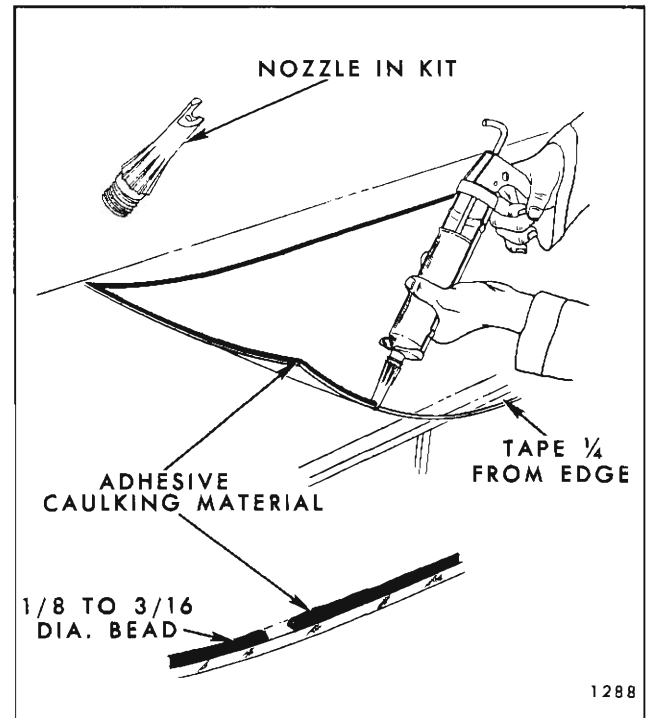

Fig. 2C10—Adhesive Caulking Material Application - Short Method
2. Apply 2" wide, masking tape across front of instrument panel, with the front edge of tape lined up with break line of instrument panel. Apply 2" wide masking tape to both inside windshield pillars. Apply masking tape across front edge of headlining. (Fig. 2C6). The application of masking tape will assist in clean-up after the glass is installed.
3. Apply 1" wide masking tape to inside of windshield glass  $1/4$ " inboard from edge of glass, first across the top, each side, then the bottom. (Fig. 2C7).